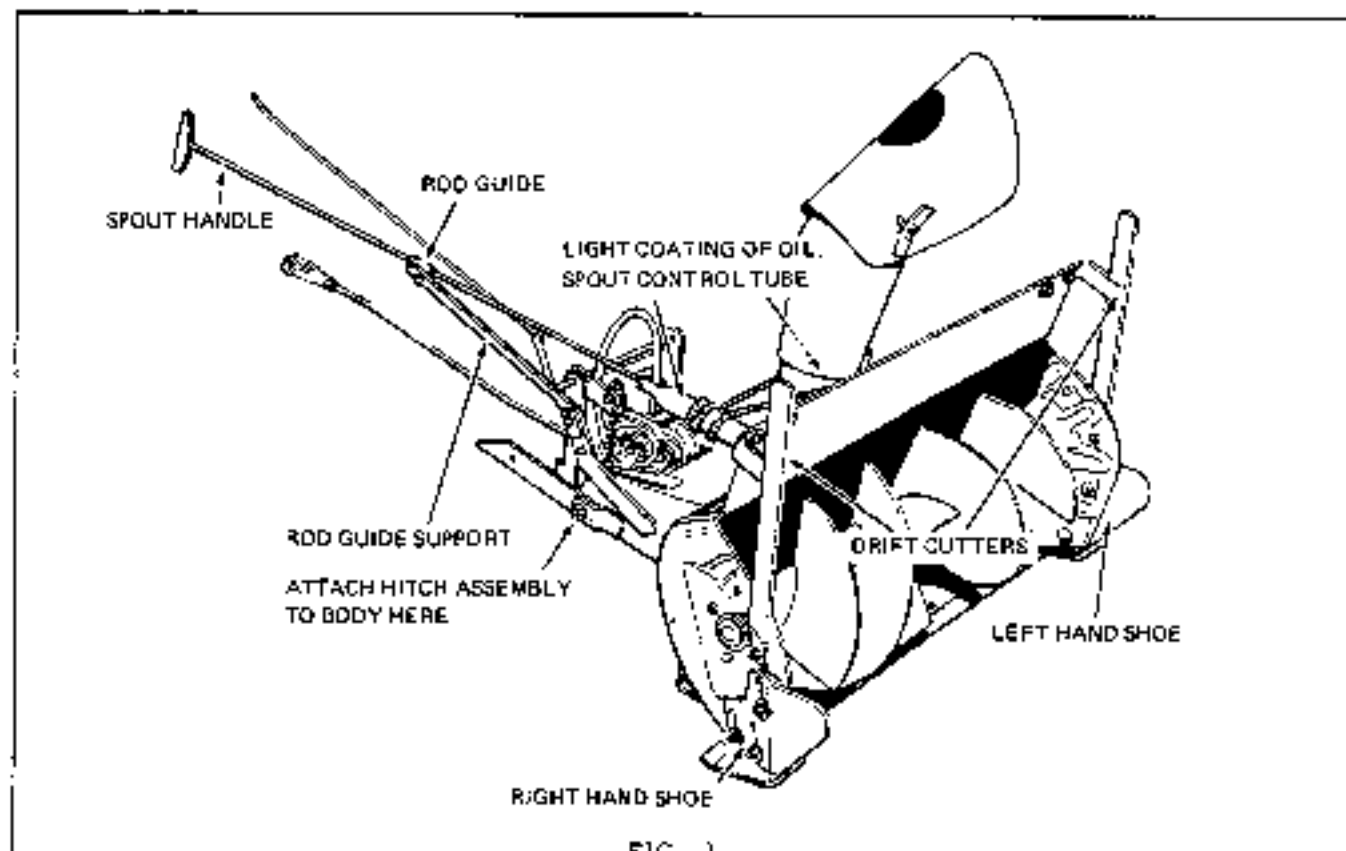

FIG. 1
1. Attach left and right hand shoe to body assembly with 3/8-16NC-3/4 long carriage bolt, 3/8 plain and 3/8 lockwasher. Secure with 3/8-16NC hex full nut, which is on outside of shoe at desired elevation for your specific needs. (See Fig. 1).
2. Attach left and right hand drift cutters to outside of body assembly with 5/16-18NC-3/4 long hex capscrews, 5/16 plain and 5/16 lockwashers. Secure with 5/16-18NC hex full nut. (See Fig. 1).
3. Attach hitch assembly to rotor body assembly with 3/8-24NF-2-1/2 long hex head bolt, 3/5 plain and 3/8 spring washer. Secure in place with 3/8-24NF hex full locknut. (See Fig. 1).
10. Apply a light coating of oil to neck of discharge spout. Install spout and extension as shown. (See Fig. 1).
11. Attach rod guide support to top hole of lift rod bracket with 3/8-16NC-1/4 long capscrew, 3/8 lockwasher and 3/8-16NC hex full nut. **DO NOT TIGHTEN.** (See Fig. 1).
12. Insert handle assembly into spout control tube assembly and secure with 5/32" x 1" long cotter pin. Insert spout control tube assembly into bearing and secure in place with 2-1/8" x 3/4" long cotter pins. Insert handle assembly through rod guide. Tighten 3/8-16NC hex full nut on rod guide support which is in top hole of lift bracket, at desired angle of operator while on seat. (Fig. 1)